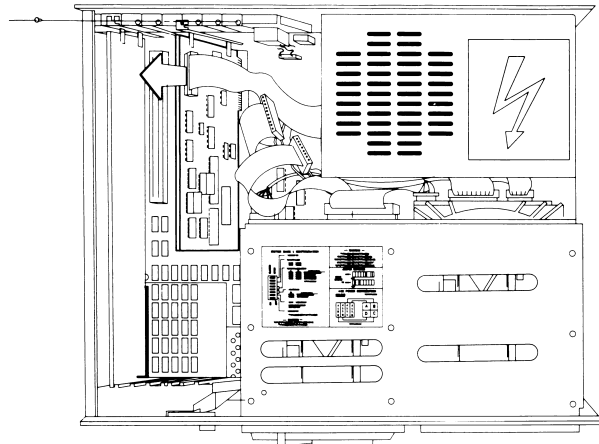

Figure 7-15. Removing the Diskette/Printer Controller Board Signal Cable.
6. Disconnect any signal cables attached to the expansion or controller board(s) (Figures 7-15 through 7-20).